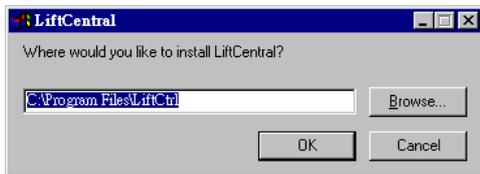

Figure 1-6 LiftCentral™ allows you to change where you want the installation to occur.
- You will be prompted to select the folder into which LiftCentral™ will be installed. Check to see if the default folder is acceptable to you. You can choose to change the folder, choose Cancel to exit, or choose OK to continue. If you choose to change the folder, you can install LiftCentral™ to another folder on the same drive or on another drive, even a network drive. Figure 1-6 shows the **Installation Folder dialog box**.